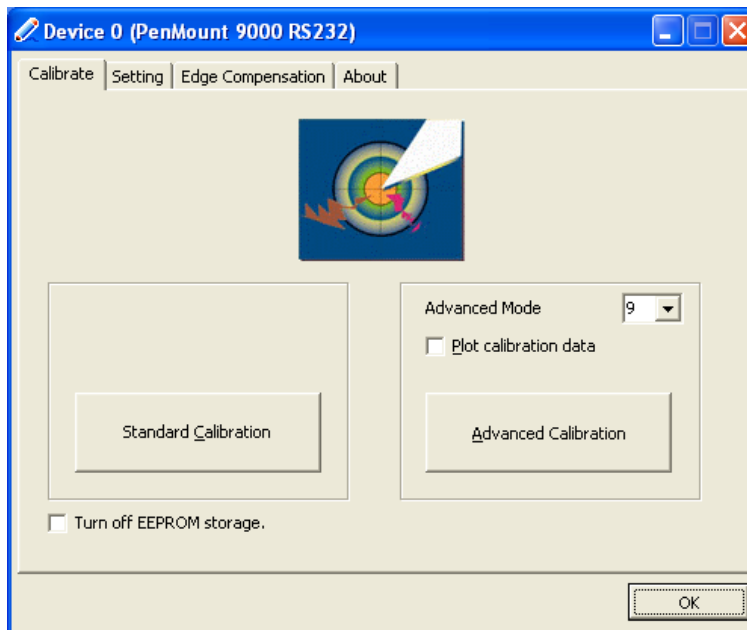

Figure 6-29: Calibration Initiation Screen
Step 7: The calibration initiation screen in **Figure 6-29** appears.
Step 8: Select the **Standard Calibration** button as shown in **Figure 6-29**.